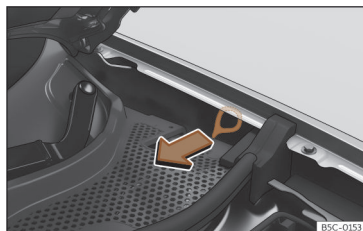

Fig. 64 Between the left wing panel and the engine bonnet hinge: Charging connector manual release mechanism puller.
The puller for the manual release mechanism is on the left hand side of the engine compartment, above the charging socket >>> **Fig. 64.**
- Pull the puller >>> **Fig. 64.**